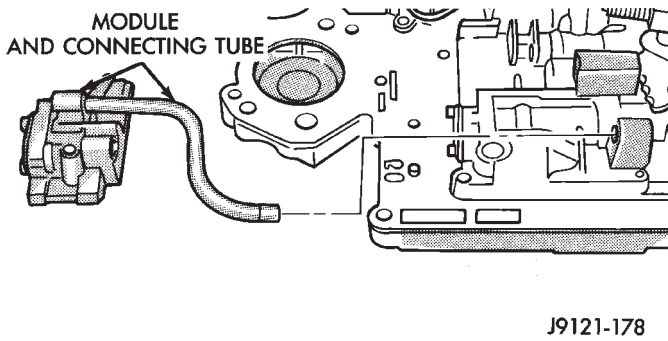

Fig. 65 Clutch Module And Connecting Tube
(34) Insert connecting tube into valve body opening (Fig. 65).
(35) Place converter clutch valve module in position on separator plate. Install screws to attach converter clutch module to valve body (Fig. 65).